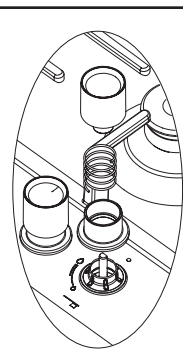

Figure 4
1. Put the hob burners in a low position and pull out the hob control knobs on the control panel (see figure 4).